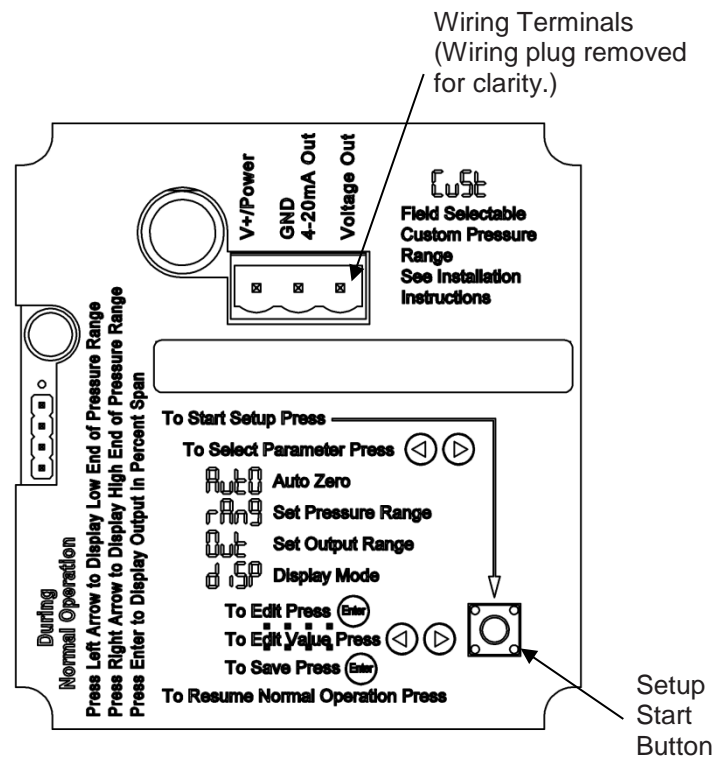

Figure 4: Wiring Terminals Inside Enclosure Cover
1. Open the enclosure cover and press the Setup Start Button on the lower right of the circuit board. (See Figure 4.)